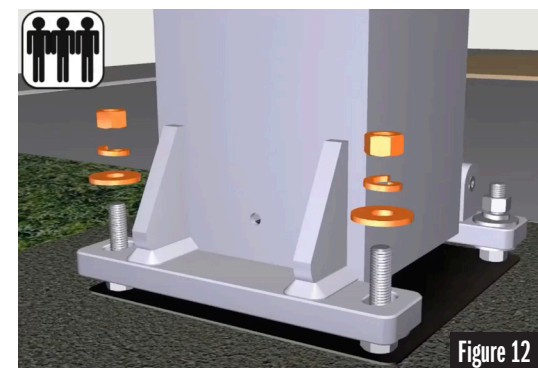

Figure 12
- Secure remaining two bolts with (2) Flat Washers, (2) Lock Washers and (2) 5/8" Nuts. See Figure 12.